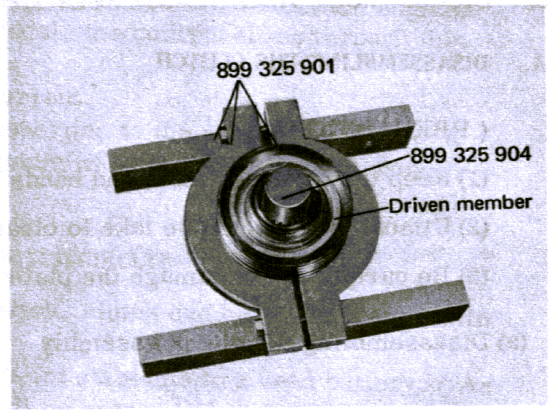

Fig. 43
(1) Remove the six 4 mm screws and detach the slip ring from the bracket assembly.
(2) Secure 899325901 to the driven member and place the 899325904 on the center of the bracket. Then, press the 899325904 and remove the bracket from the driven member assembly. (See Fig. 43)